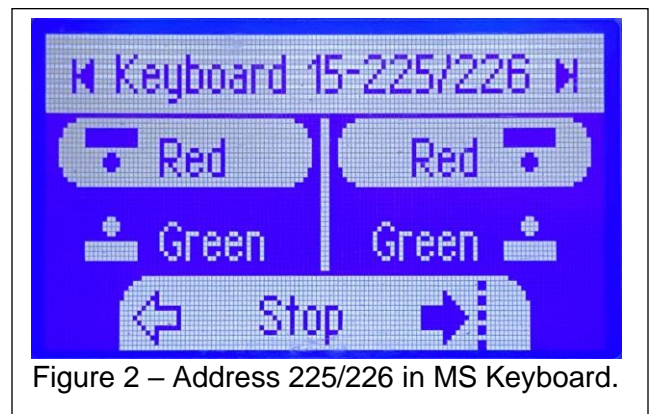

Figure 2 – Address 225/226 in MS Keyboard.
2. Press the “STOP” button to turn off track power - now is a good time to scroll to address 225/226 on the Mobile Station as in Figure 2.
2. Press the “STOP” button. - now is a good time to scroll to address 225 on the Mobile Station as in Figure 2.
A trigger like this can be used in the example shown in Fig. 2. When a train triggers this contact, it can set the turnout (behind train) to re-route any incoming travel.